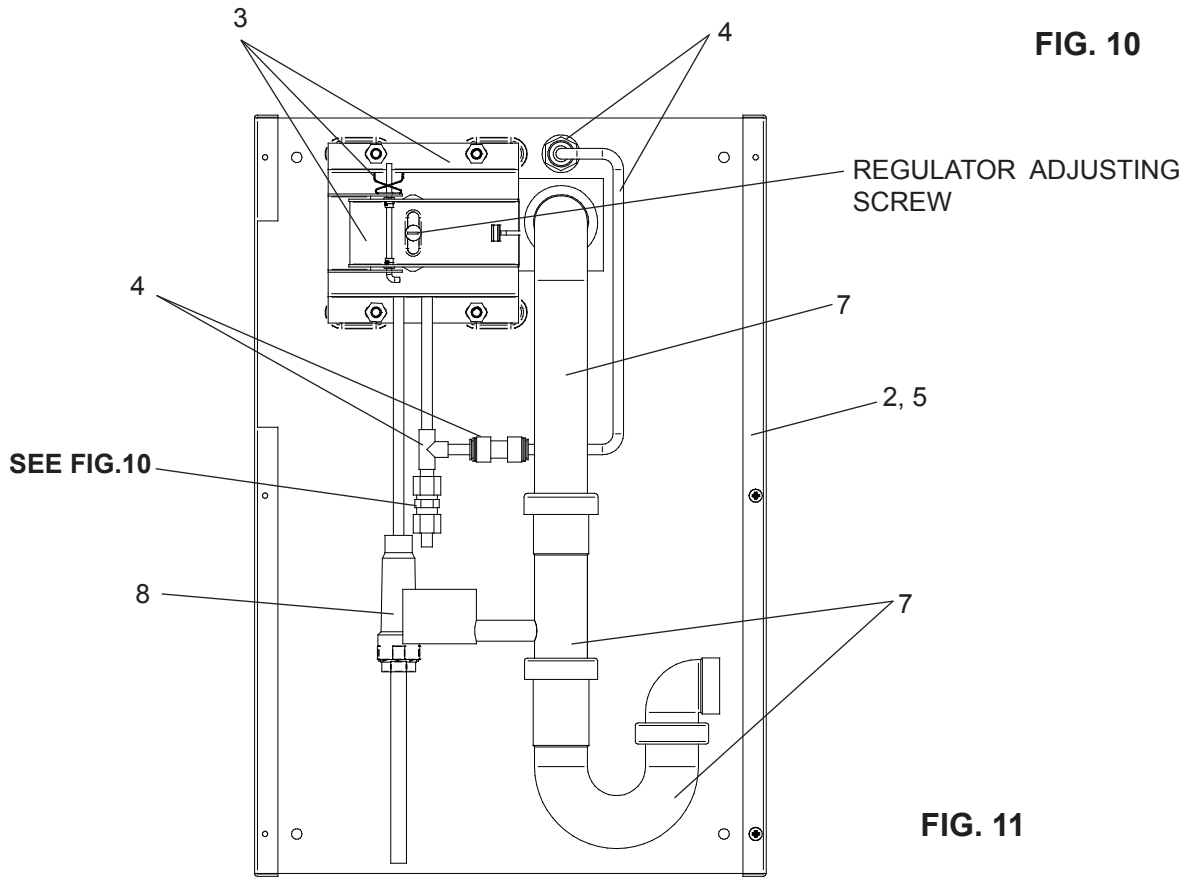

FIG. 11
2. Stream height is factory set at 35 PSI. If stream height needs to be changed adjust screw on regulator, behind regulator pivot bracket. See Figure 11. Clockwise adjustment raises stream height, counter clockwise adjustment will lower stream.